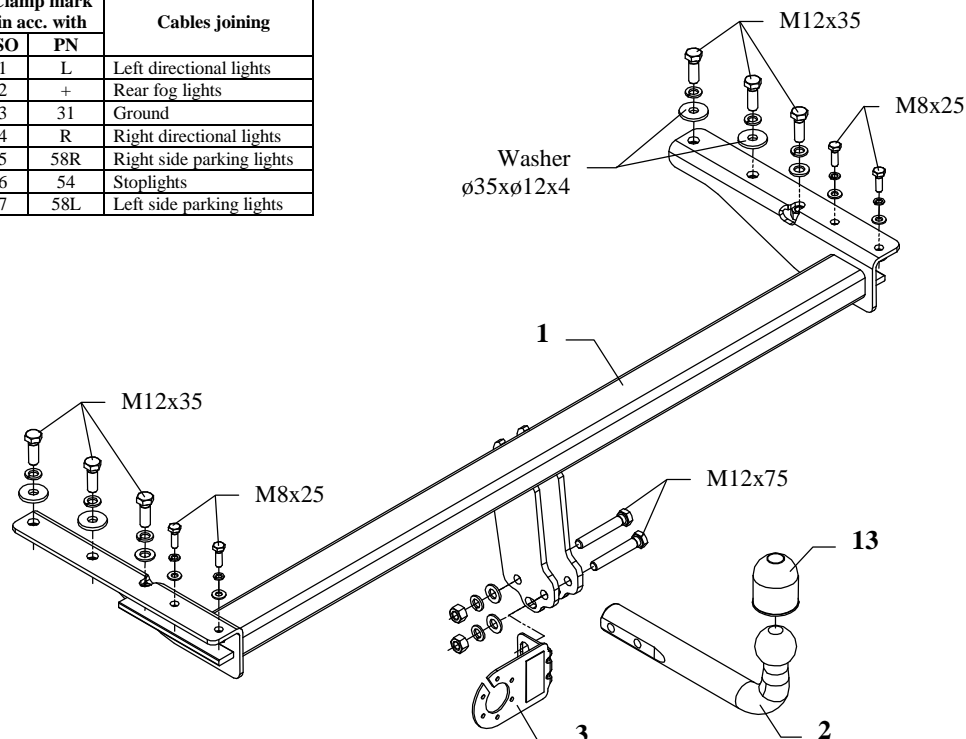
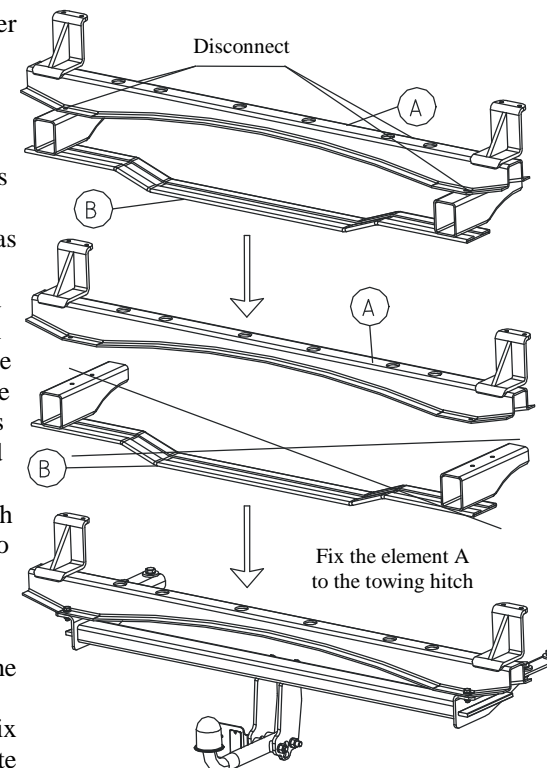

Fig. 1
Fig. 2
- Disconnect the metal fulfilment as showed on the fig. 2.
- Element B (see fig. 2) not used anymore, whereas element A (see fig. 2) one ought to fix to the main bar of the towing hitch (see fig. 1, pos. 1) using bolts M8x25mm (pos. 6) as showed on the fig. 2.
- So prepared towing hitch fix with the bumper, which one ought to slip into chassis members, then fix using bolts M12x35mm (pos. 5) as showed on the fig.
- To so prepared towing hitch fix tow-ball (pos. 2) and socket plate (pos. 3) by bolts M12x75mm (pos. 4) from accessories.
- Część B (patrz rys. 2) nie będzie wykorzystana, natomiast część A (patrz rys. 2) przykręcić do belki głównej zaczepu (poz. 1, patrz rys. 1) śrubami M8x25mm (poz. 6) jak pokazano na rys. 2.